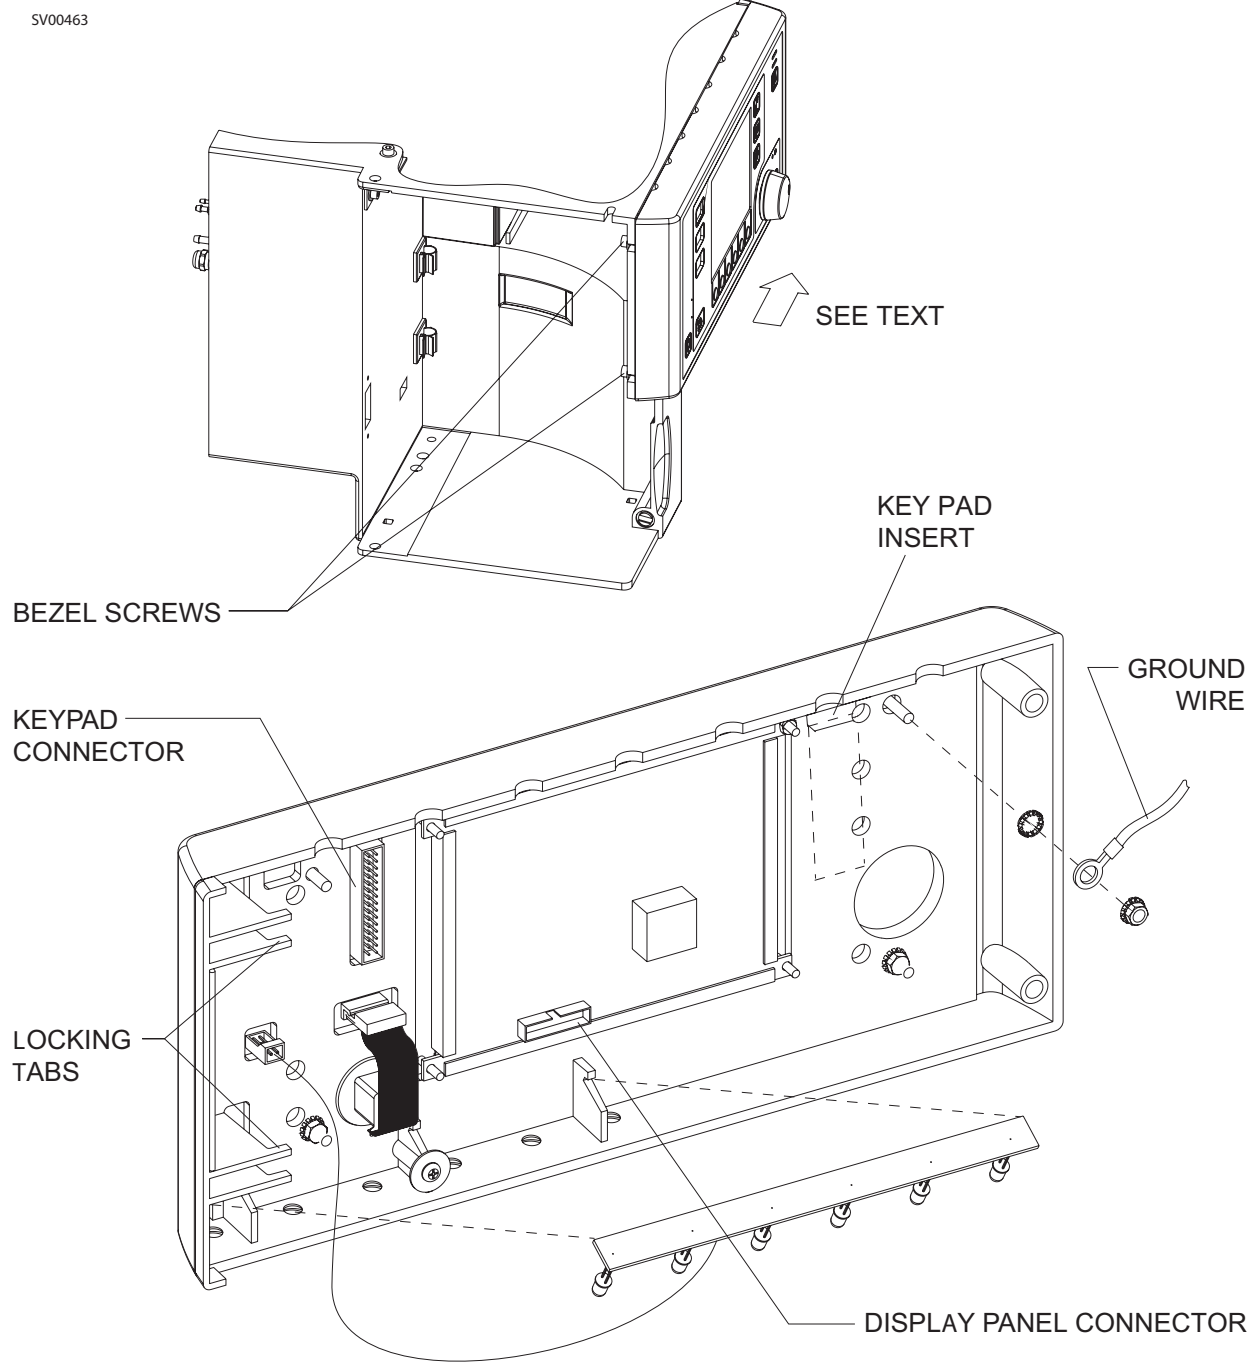

Figure 5-28. Monitor Bezel Assembly
The monitor bezel assembly comprises the keypad, flat panel display, rotary switch, and LED lamp PCB assembly. Access to the bezel assembly mounting screws is through the ventilator compartment as shown in Figure 5-28.
NOTE: Replacement keypads do not include key pad inserts. Therefore, removal of the original key pad insert for later reuse is necessary. Refer to Figure 5-28 for key pad insert location.
5.20.4 Slide the bezel to the right to release its locking tabs from the machine. See Figure 5-28.